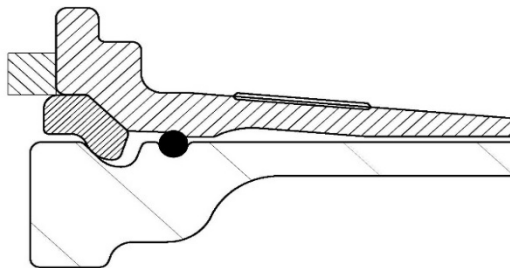

Figure 1 – Shur-Lok with lock ring misplaced but captured under bead seat band hood.
- Even when misplaced, simulations indicate that structural capacity is maintained provided the lock ring remains under the bead seat band hood. See Figure 1.